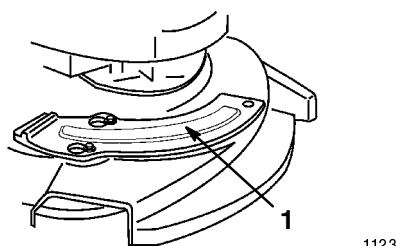

Figure 47
3. Insert the mulch plate into the housing opening (Fig. 47).